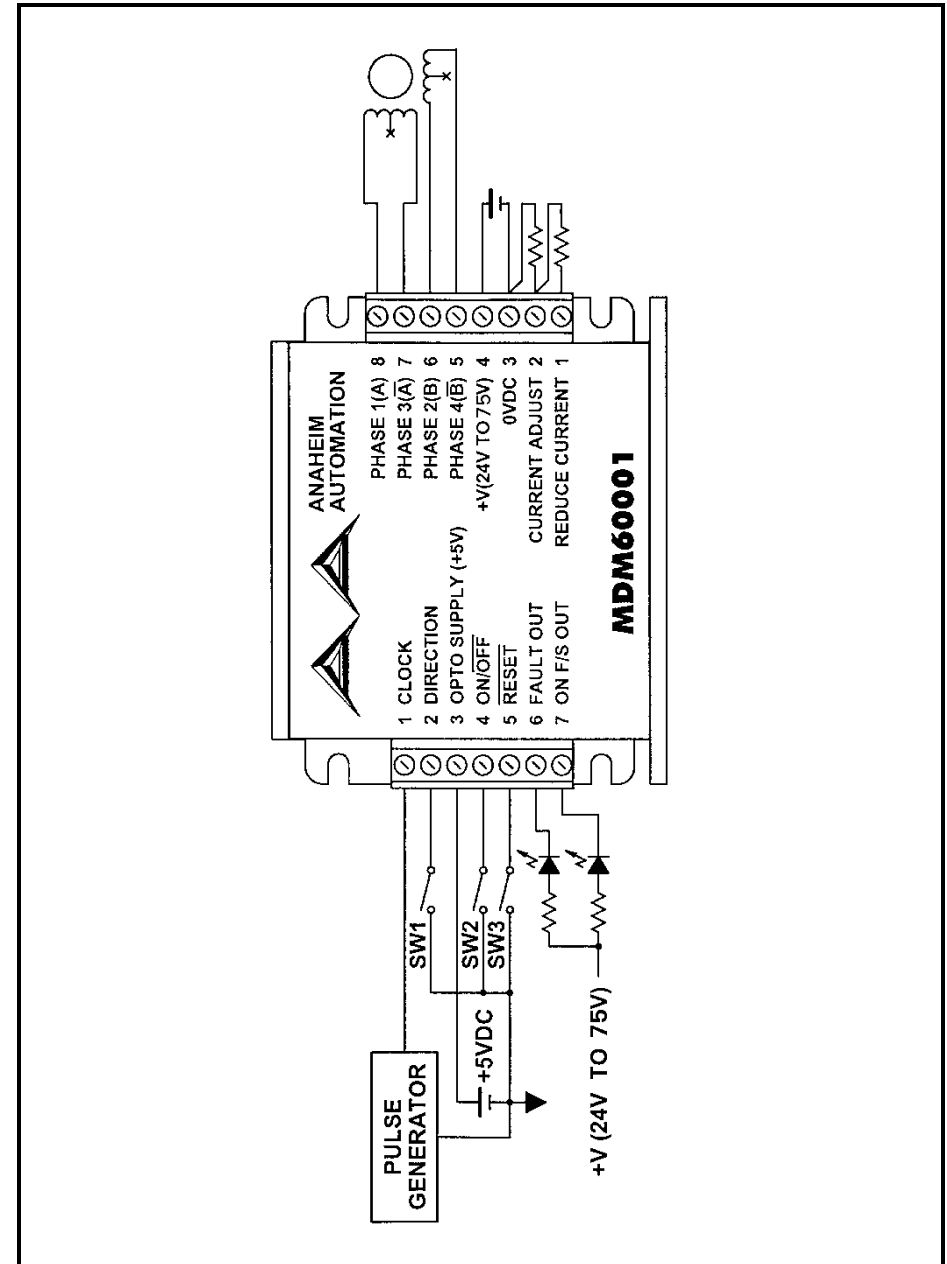

FIGURE 1
**WARNING!** A current adjustment resistor is always necessary to keep the drive in a safe operating region. Do not operate the driver without a current adjustment resistor. When connecting the CURRENT ADJUSTMENT resistor between Pins 3 and 2 of Connector P2 the length of the leads should be as short as possible to help minimize the noise coupled into the driver. Refer to Figure 1 for TYPICAL HOOK-UP.
Reducing the output current in the MDM60001 can be accomplished by connecting an external resistor (1/8 watt or higher) between pins 1 and 2 of connector P2 and occurs automatically 1 second after the last positive going edge of the step clock input. See Figure 1 for TYPICAL HOOK-UP.
Refer to Figure 1 for TYPICAL APPLICATION HOOK-UP
When multiple drivers are run from one power supply, each driver should have separate power and ground wires that connect directly to the output capacitor of the power supply. Refer to Figure 1 for TYPICAL APPLICATION HOOK-UP.